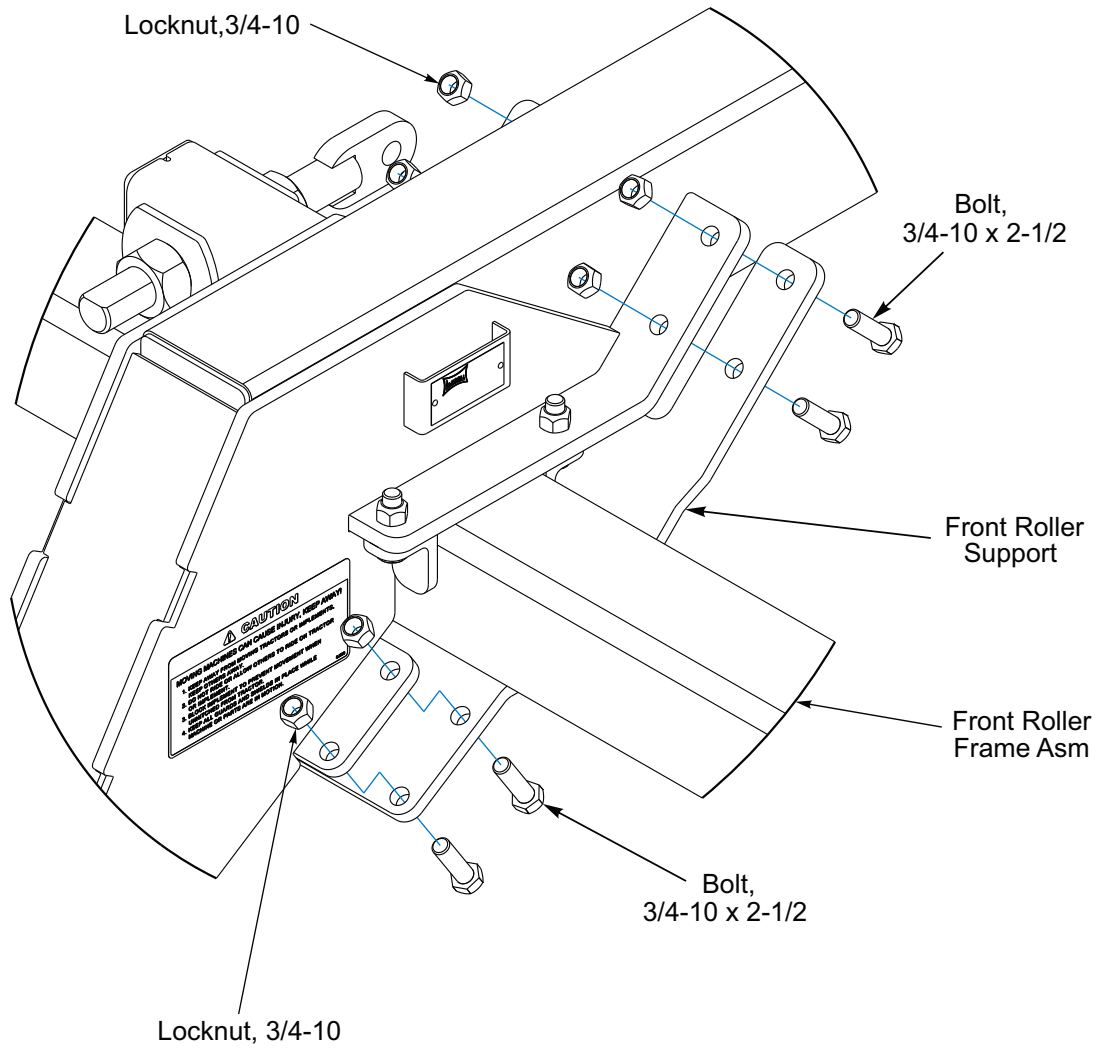

Figure 2-1: Front Roller Support
7. On the inside Frame, position the Front Roller Support Plate under the Front Roller Frame Tube and secure with eight 3/4-10 x 2-1/2 Bolts and Locknuts. **See Figure 2-1.**